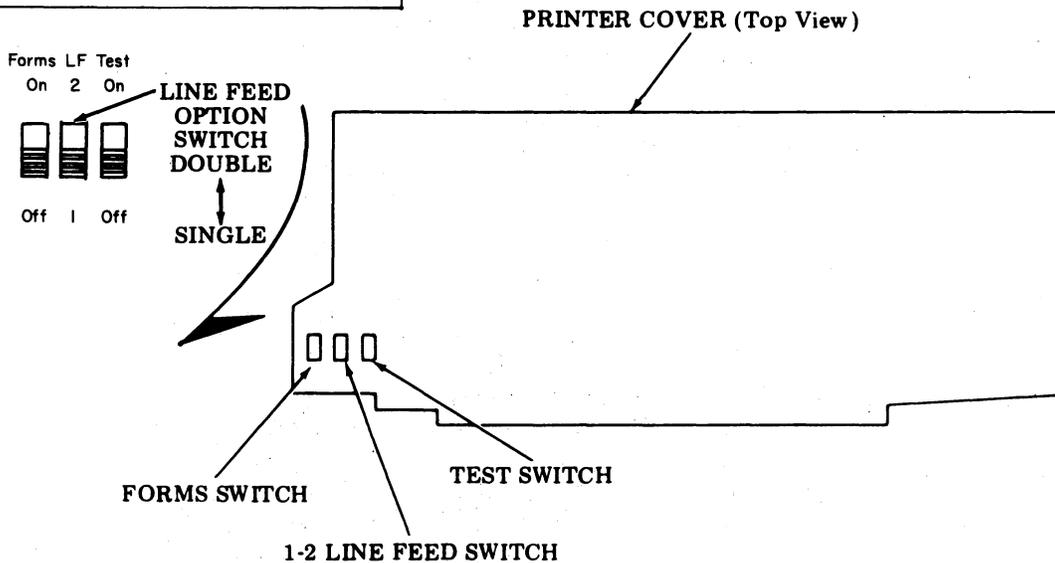

Fig. 24
2.46 The LINE FEED 1, 2, slide switch (Fig. 24) enables the selection of one vertical line space between printed lines or two vertical line spaces between printed lines. Each line feed command from the printer logic to the line feed magnet is a 10ms current pulse of approximately 720 mA. The time required to execute one line feed command when the line feed switch is set at LF1 is 32ms. When LF2 is operated and a line feed command is executed the time required is 52ms.